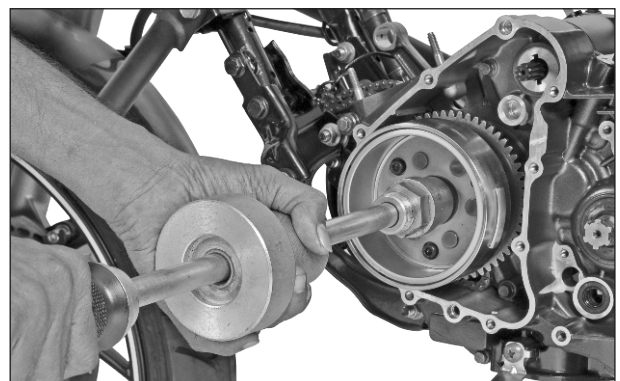

Fig. 3.131
- Using the special tool, remove the rotor assembly along with gear complete starter clutch. (Fig. 3.131)